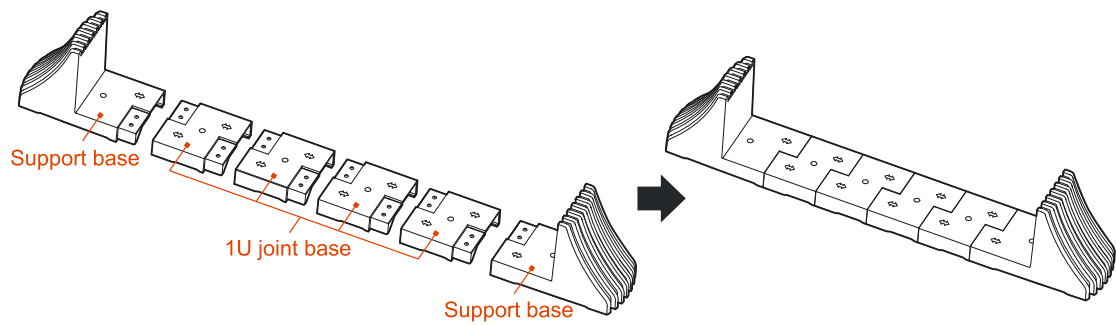

Figure3-6 Assemble support base
- Step 1 Take out a pair of support base and other 1U joint bases, assemble them together, as shown in Figure3-6.